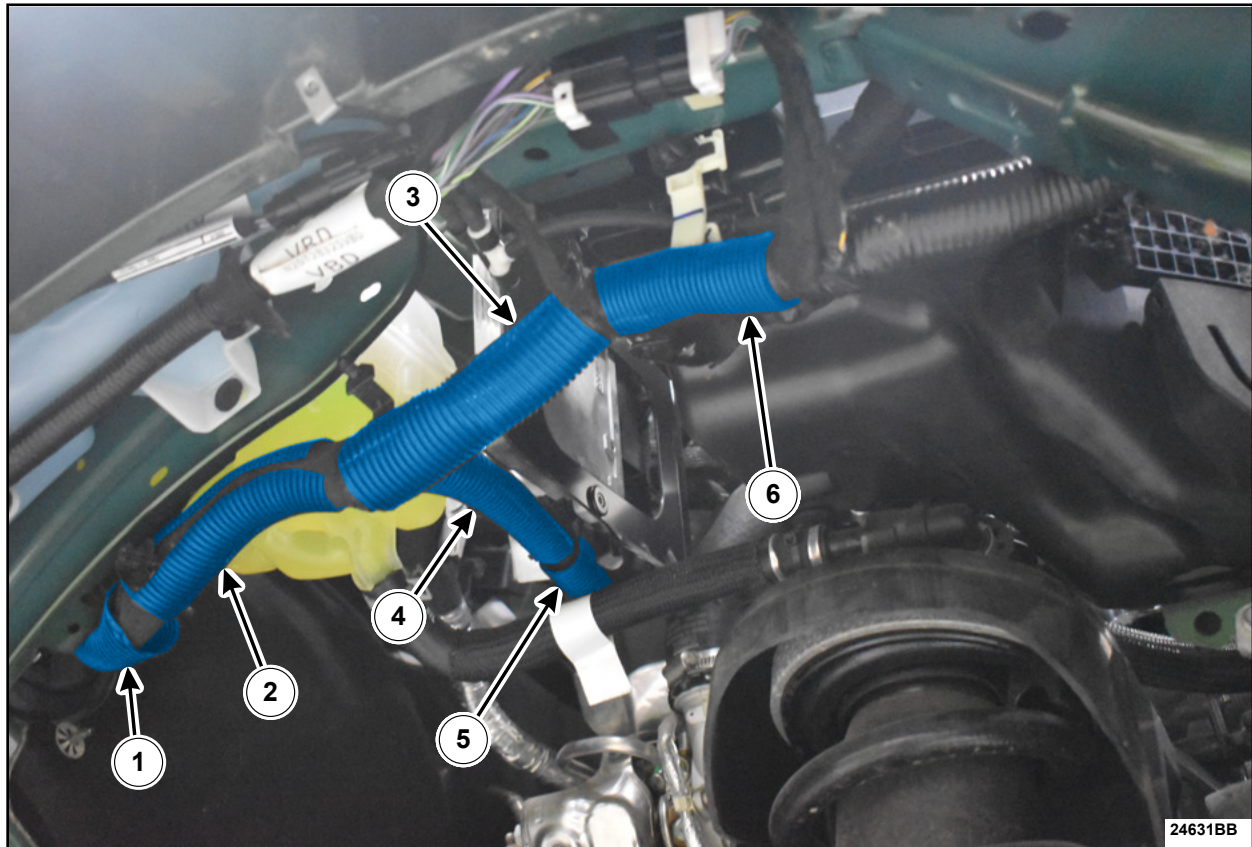

FIGURE 10
19. Install the convolute tubing onto the inspected portions of the wire harness and using the coroplast tape, tape the tubing onto the harness. See Figure 10.